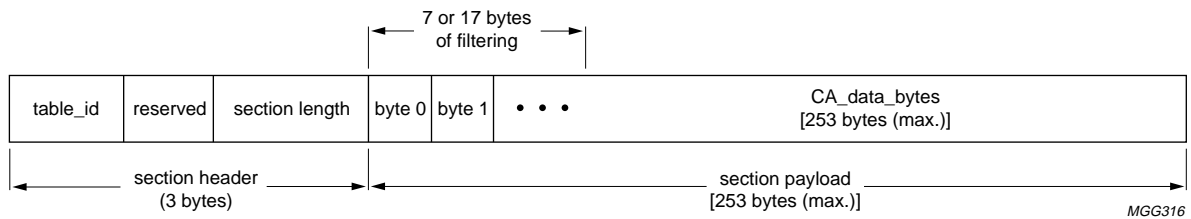

Fig.4 Syntax of the conditional access message.
- A Control Word (CW) bank containing 6 CW pairs and a default CW. A CW pair consists of 2 descrambler control words (odd and even), each word with a length of 64 bits.
- A microcontroller interface providing protocol handling for the memory mapped I/O control bus (Philips 90CE201 compatible). This module contains an interrupt request handler and data filters for the retrieval of Conditional Access (CA) information:
- The CA filters select data on the basis of PIDs, and a combination of MPEG-2 section addressing fields. Selected CA data is stored in eighteen 256 byte (constrained random access) buffers which can be read by the microcontroller. The CA message section has a maximum length of 256 bytes. It consists of a 3 bytes long header with Table_id and section_length data. The remaining part of the CA message are the CA_data_bytes (see Fig.4). If a section is longer than 256 bytes, the data capture is stopped (with an interrupt to the microcontroller) after 256 bytes are in the buffer and the 'section_to_long' bit is set. The filters are capable of monitoring 18 CA streams (containing EMM and ECM data) simultaneously. Two different lengths are used for address filtering:
Table 1 Explanation of Fig.4